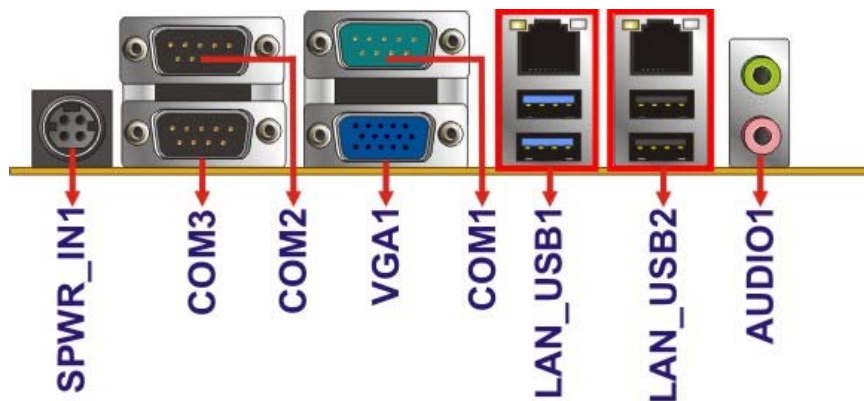

Figure 3-33: External Interface Connectors
CN Location: See **Figure 3-33**
- CN Location:** See **Figure 3-33**
- CN Location:See Figure 3-33